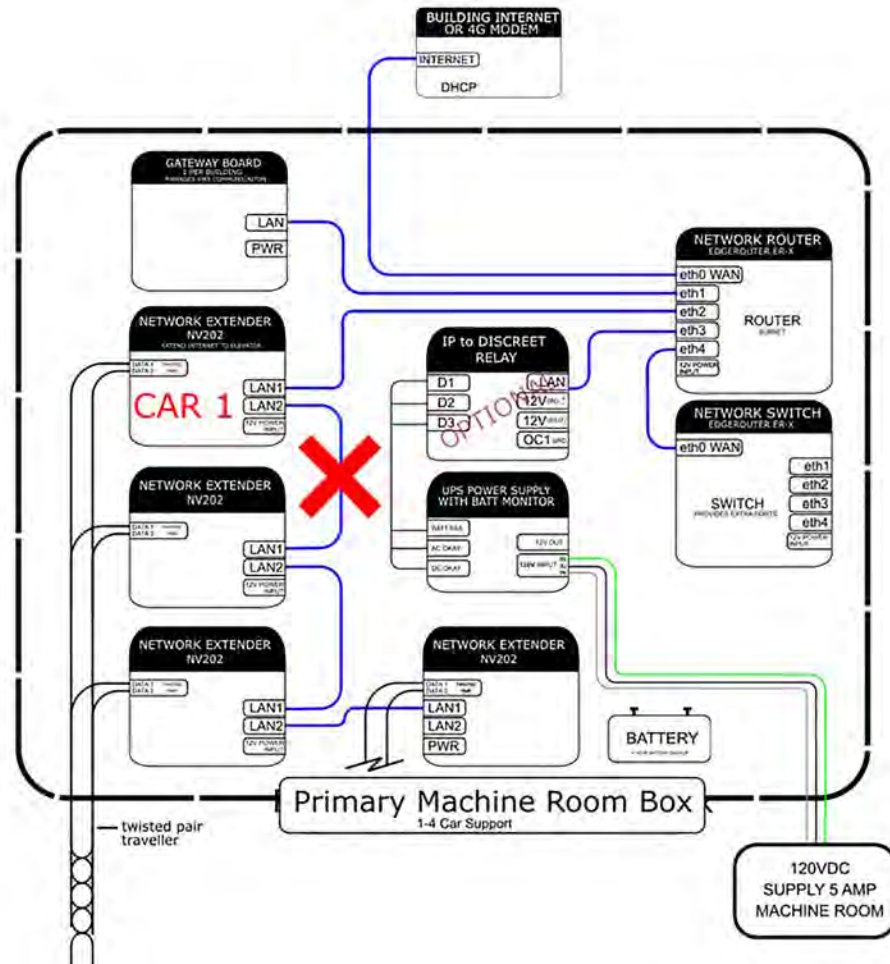

Figure 6 - Disconnect Cat5e Cable
- Disconnect the Cat5e cable from LAN1/LAN2 on the NV202 Ethernet extender for each car that is not currently being provisioned. Verify that only Car 1 has a network connection to the PEB. See Figure 6.